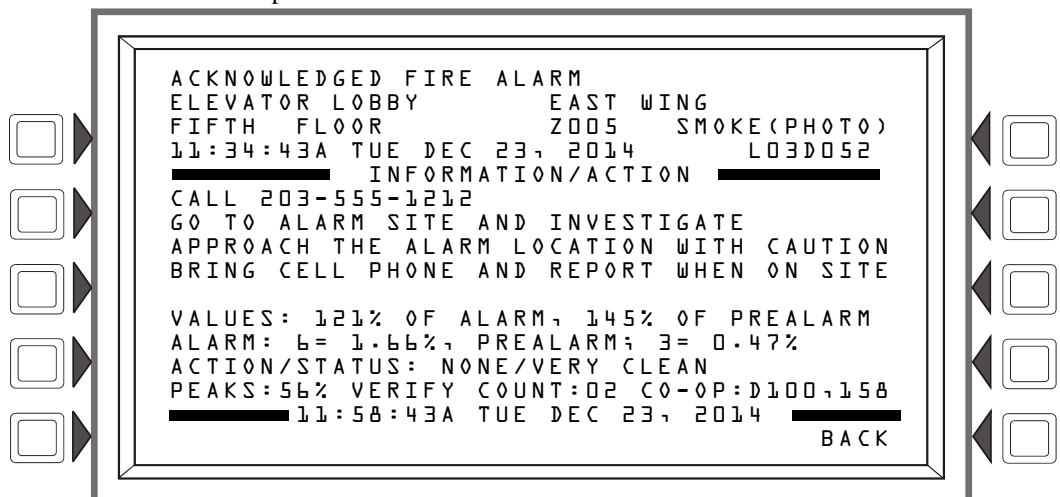

Figure 1.9 More Information Screen
1. Check the Alarm message for its location and type. Press the **MORE INFORMATION** soft key to display the **MORE INFORMATION** screen and view additional information on the device and possibly preprogrammed text for recommended action. (Refer to Figure 1.9 on page 11 for an example of the this screen and an explanation of its fields.)